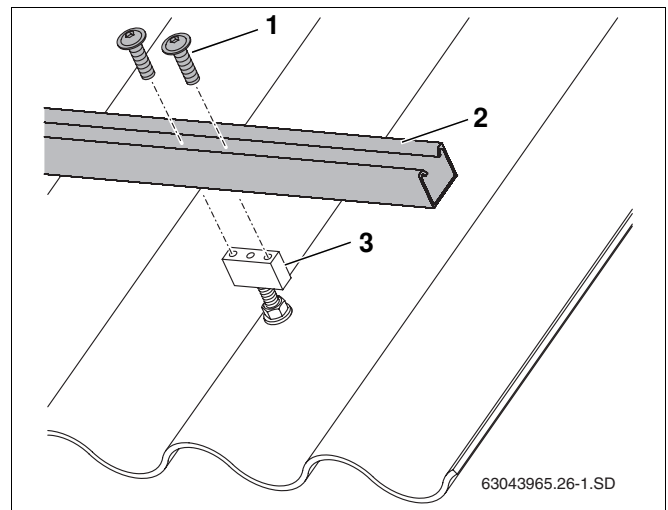

Fig. 25 Fastening the profile rail to the holding bracket
- Fasten each profile rail (Fig. 25, **Item 2**) with two bolts (Fig. 25, **Item 1**).